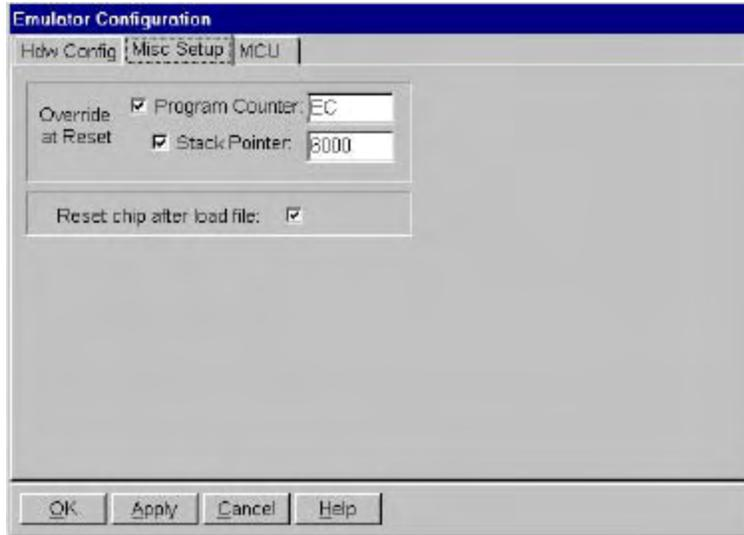

Figure 89. Miscellaneous Emulator Configuration Dialog Box
3. Click the **Misc Setup** tab at the top of the dialog box (Figure 89).